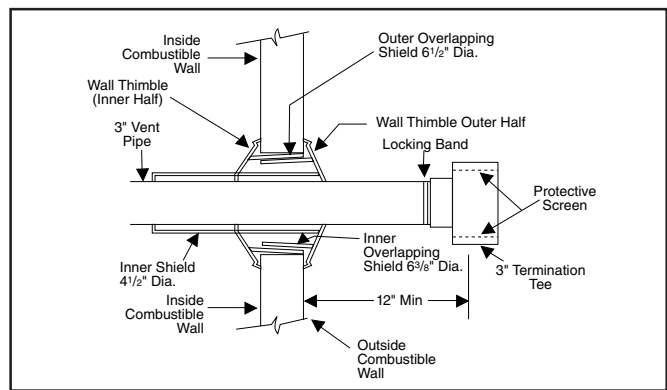

Figure 21. Typical Termination
11. Cut an 8 inch minimum piece of vent pipe and connect the coupling to the termination tee. The inside of the tee must be a minimum of 12 inches from the outside of the wall. (See Figure 21.)